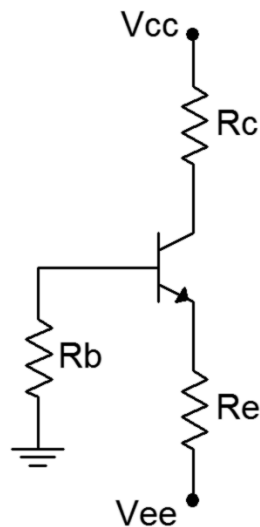

Figure 1
11. Consider the circuit of Figure 1 using $V_{CC} = 15$ volts, $V_{EE} = -12$ volts, $R_B = 33$ k Ω , $R_E = 22$ k Ω and $R_C = 15$ k Ω . Using the approximation of a negligible base voltage, determine the ideal end points of the DC load line and the Q point, and record these in Table 1.
13. Build the circuit of Figure 1 using $V_{CC} = 15$ volts, $V_{EE} = -12$ volts, $R_B = 33$ k Ω , $R_E = 22$ k Ω and $R_C = 15$ k Ω . Measure the base, emitter and collector voltages and record them in the first row of Table 2 (Experimental). Compute the deviations between theoretical and experimental and record these in the first row of Table 2 (% Deviation).
19. Build the circuit of Figure 1 in a simulator. Run a DC simulation and record the resulting transistor voltages in Table 6.